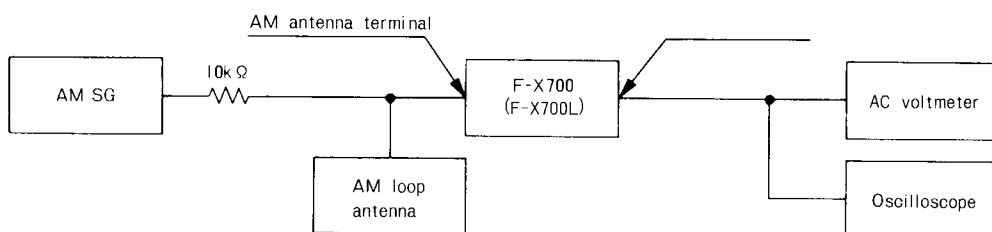

Fig. 12-2. AM adjustments connection diagram
- Connect up as indicated in Fig. 12-2.
- Press the AM (LW) key to set AM (LW) mode.